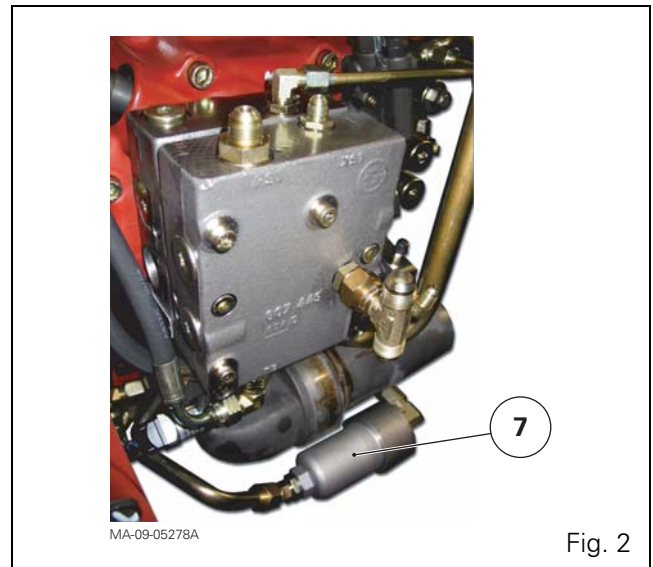

Fig. 2
All solenoid valves are controlled respectively by the tractor electronic system. A 60 micron filter element (7) (Fig. 2) is located under the right-hand hydraulic cover, upstream from the control unit.